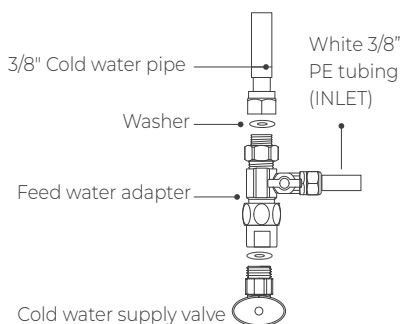

Figure 5
c. Twist the feed water adapter onto the cold water supply valve (with its washer) and tighten it with an adjustable wrench (**Figure 5**). The "INLET" water tubing has been attached to the feed water adapter for easy installation.